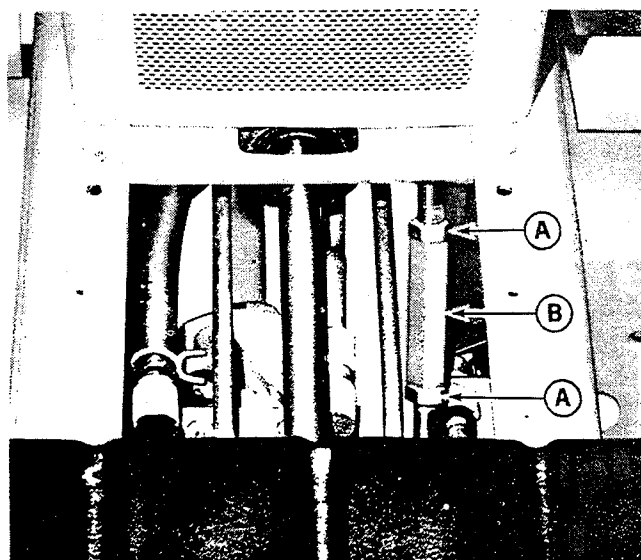

Figure 13. Hydrostatic transmission neutral adjustment.
3. See figure 13. Loosen the locking nuts (A) on either side of turnbuckle (B). To loosen the lock nuts hold the turnbuckle stationary with one wrench and use the other to turn the locking nuts counter-clockwise to loosen them.